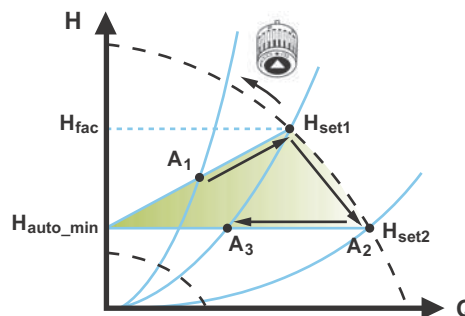

Fig. 25  $AUTO_{ADAPT}$  control
**Note:** Manual setting of the setpoint is not possible. When the  $AUTO_{ADAPT}$  control mode has been enabled, the pump will start with the factory setting,  $H_{fac} = H_{set1}$ , corresponding to approx. 55 % of its maximum head, and then adjust its performance to  $A_1$ . See fig. 25.